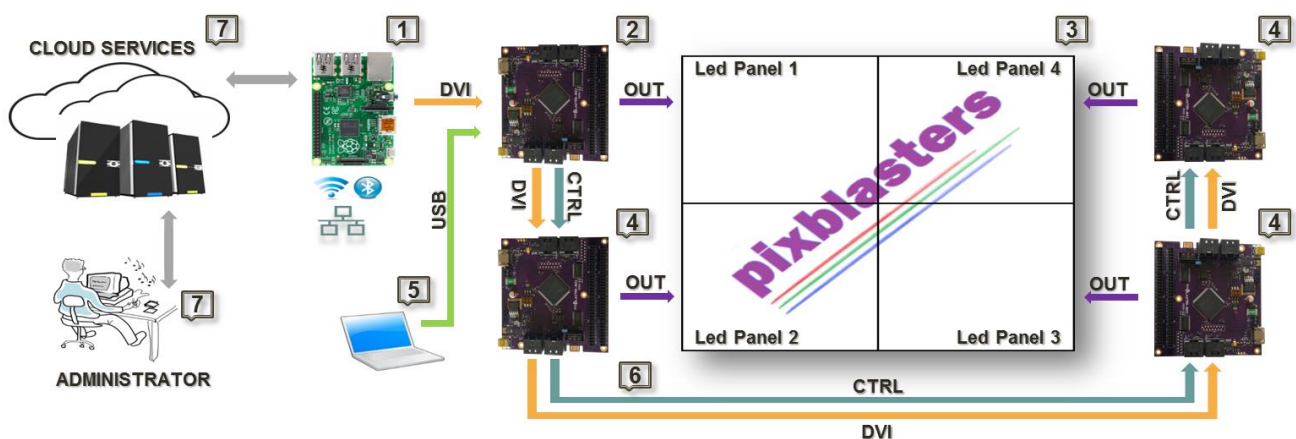

Figure 1.4 Architecture of Video LED Display Driven by Daisy-chained Pixblasters Controllers
The Pixblasters Video LED Controller is designed to be expandable and to support really big video LED displays. While a single Pixblasters MS1 video LED controller drives up to 16,384 LEDs, multiple daisy-chained Pixblasters MS1 controllers can potentially drive hundreds of thousands of LEDs. To provide the simplest possible video display's architectures, each Pixblasters controller can operate either in Master or Slave modes. The **Figure 1.4** explains the Pixblasters daisy-chain system connections and an example architecture of 18.8 m² (202 ft²) video display built of 60 LEDs/meter addressable RGB LED strips. Paragraph **Multi-controller Demo Display Architecture** showcases the Pixblasters demo display built with multiple LED controllers.
- Control computer (1) generates video for the complete LED display, and with the standard monitor cable, connects to the DVI compatible video input of the Master Pixblasters MS1 video LED controller (2).
- Optionally, the computer (1) can be locally or remotely controlled through different network interfaces. It can run any video display application, including digital signage players that automatically connect to online digital content services (7).
- The Master Pixblasters controller (2) controls Slave controllers (4) through the DVI video link and an optional control link*. Each slave controller displays the exact portion of the video image on the attached LED panels (3) built of up to 16,384 RGB LEDs.
- The video and the control links (6) between the chained Pixblasters MS1 controllers use ordinary Ethernet cables to enable simple and flexible display wiring. The links guarantee automatic and perfect LEDs synchronization.
- Each controller (2, 4) is configured for Master/Slave mode by on-board DIP switches. Other configuration parameters are setup only once for each board through a simple configuration menu on the PC (5) connected with the USB cable.
- Separate +5V DC power supplies, which are not shown in Figure 1.4, must provide sufficient power for the complete display.